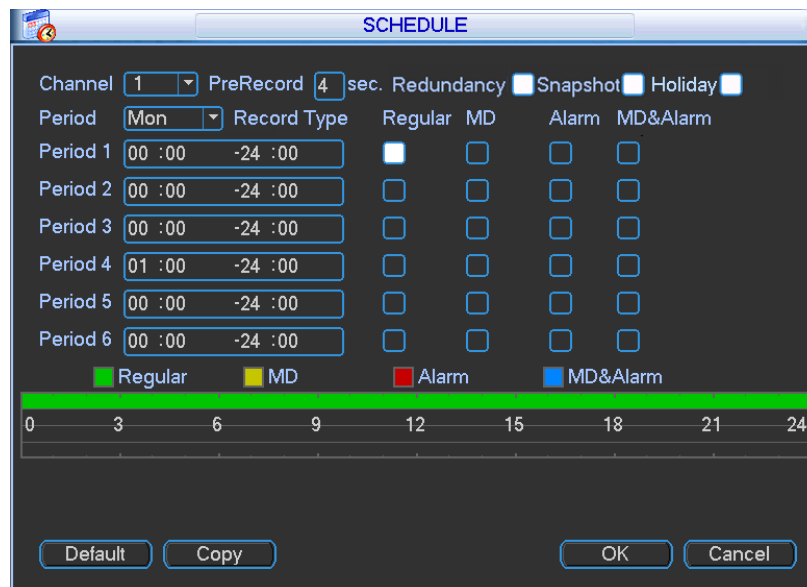

Figure 3-37
1. To enable redundancy, highlight the Redundancy box on the Schedule screen. See Figure 3-37.